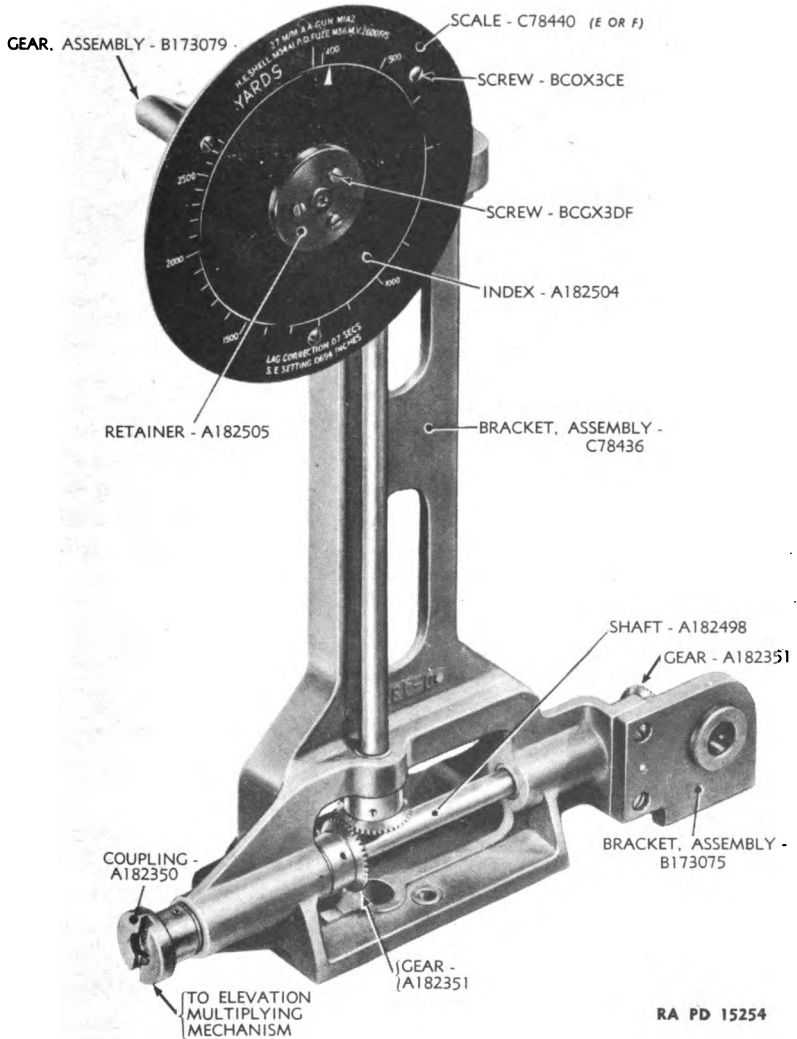

Figure 46 — Range Mechanism Assembly D43789
a. The range mechanism consists of the shafts and gears which transmit the range data from the handwheel to the azimuth and elevation and multiplying mechanisms, and an index and scale which show what range in yards is being inserted (figs. 46 and 47).